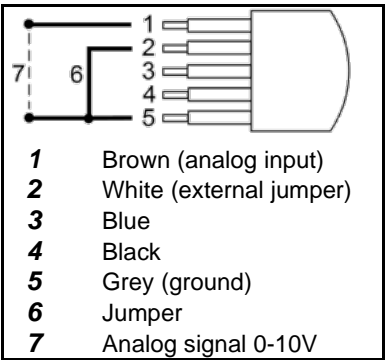

Fig. 18: RC cable jumper
- ➔ With the RC cable connect the white lead (jumper) to the grey lead (ground) or with the RC connector, connect pin 2 to pin 5. See Fig. 18